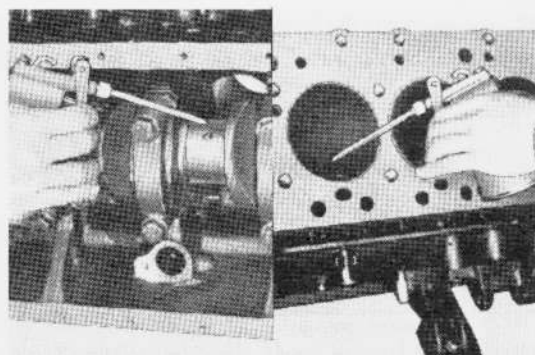

Fig. 2-108 Applying Engine Oil
8. Apply engine oil onto the piston, inner surface of cylinder, crank pin, connecting rod bearings, connecting rod bolts and nuts. (Fig. 2-108, 2-109.)